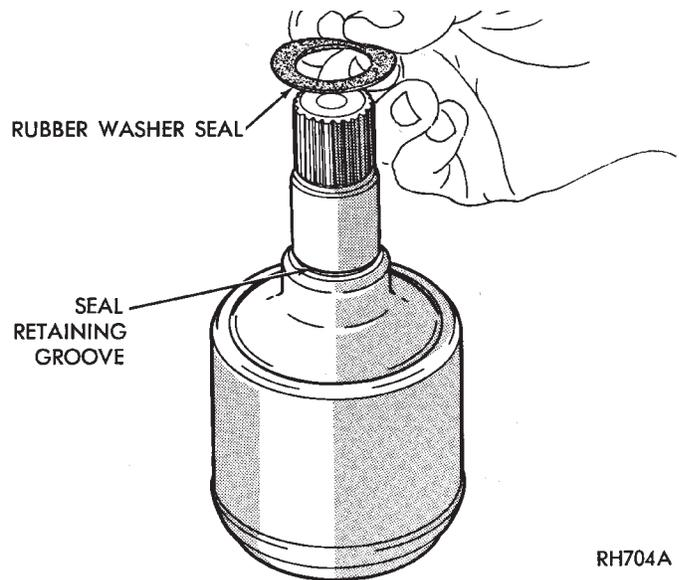

Fig. 12 Rubber Washer Seal Installation
(1) Slide rubber washer seal over stub shaft and down into the groove provided (Fig. 12). **The rubber washer seal is used only on the right inner C/V joint on the Equal Length Drive Shaft Systems.**